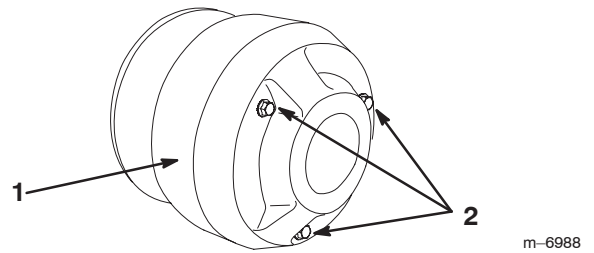

Figure 38
3. Remove the 3 bolts securing the cover to the clutch and remove the cover (Fig. 38).